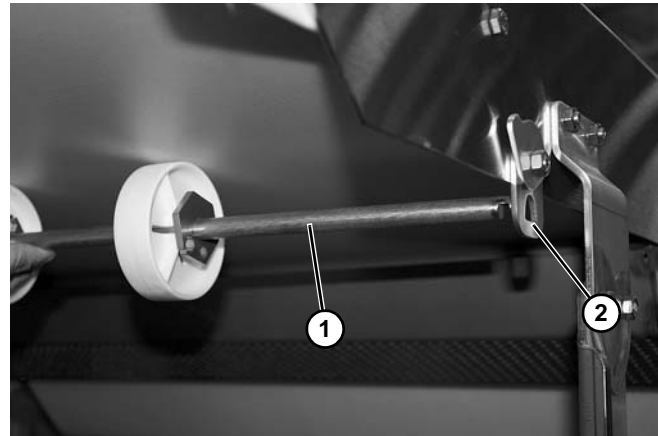

Figure 26
5. Install belt return assembly (Figure 26, item 1) onto return brackets (Figure 26, item 2).